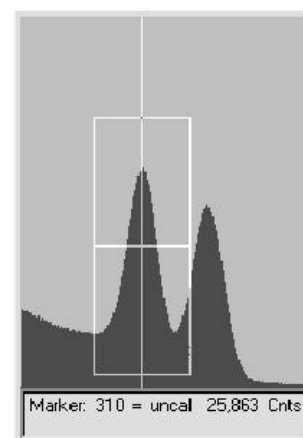

Fig. 12. The Rubber Rectangle's Crosshairs.
2. Drag the mouse diagonally across the area of interest. As you do this, the mouse will be drawing a reverse-color rectangle bisected by the marker line. Note that when drawing a rubber rectangle, the marker line combines with a horizontal line inside the rectangle to form crosshairs (Fig. 12). They make it easy to select the center channel in the area of interest — this might be the center of an ROI that you wish to mark or unmark, a portion of the spectrum to be summed, or a peak for which you want detailed information.